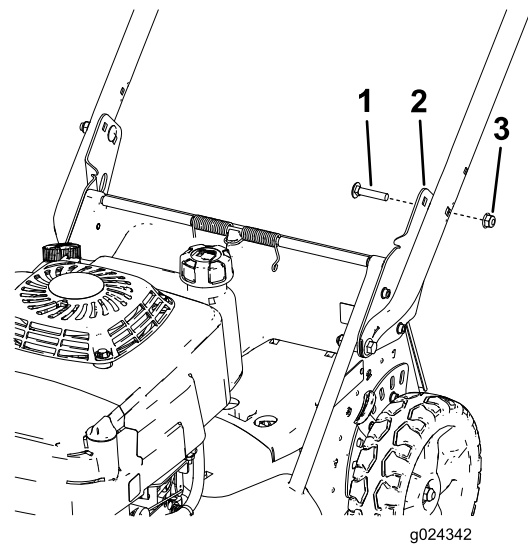

**Figure 5**
5. Stand in the operating position to determine the handle height that is most comfortable for you (Figure 5).